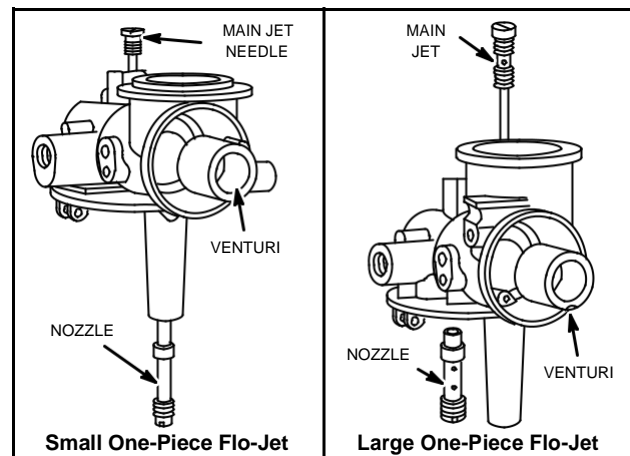

Fig. 260 - REPAIR CARBURETORS
3. Use Tool #19280, Carburetor Screwdriver, to remove emulsion tube, Fig. 260.
4. Venturi can now be removed, Fig. 260. (Large One-Piece CHOKE-A-MATIC carburetors have a choke plate stop pin which must be pulled out to remove venturi.)
3. Install jet on small One-Piece or nozzle on large One-Piece Flo-Jet. The nozzle or jet holds venturi in place, Fig. 260.